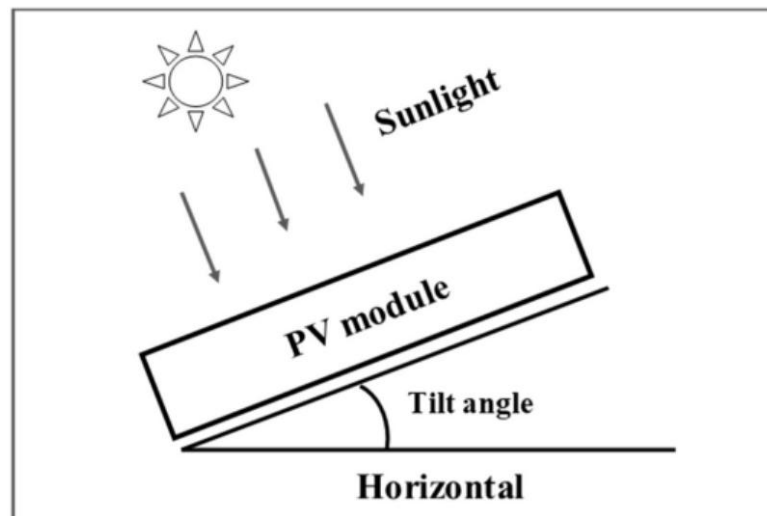

Fig. 5-1 Tilt angle
- Installation inclination refers to the Angle between the module and the ground plane, as shown in Figure 5-1.